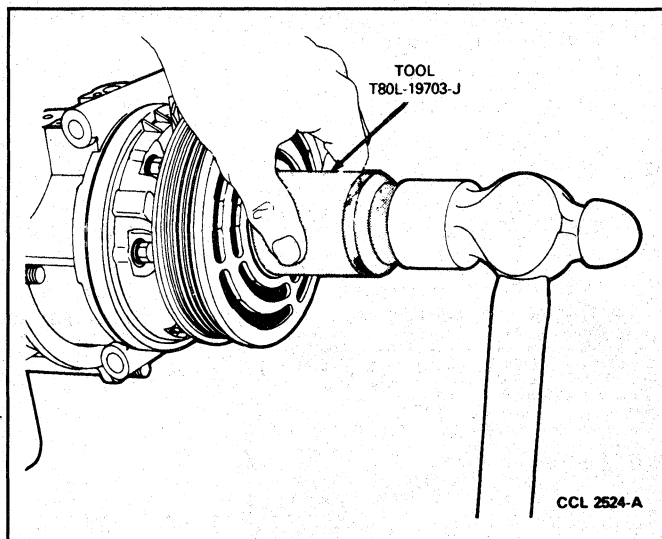

FIG. 7 Clutch Pulley—Installation
2. Install the pulley and bearing on the compressor. The bearing is a slip fit on the compressor head and, if properly aligned, should slip on the compressor head. If difficulty is encountered installing the pulley, gently tap the pulley on the compressor using Pulley Replacer T80L-19703-J or equivalent (Fig. 7). Ensure the pulley bearing is aligned with the compressor head.